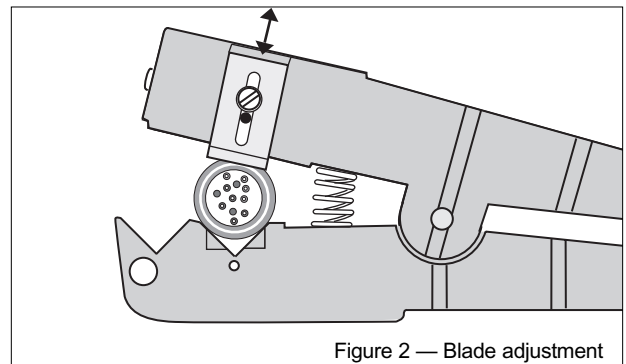

Figure 2 — Blade adjustment
Step 2: Use a screwdriver to adjust the depth of one of the cable cutter's side blades just beyond the thickness of the outer jacket (Figure 2). The other blades must be fully retracted. Afterwards, check the blade depth by scoring the cable end.